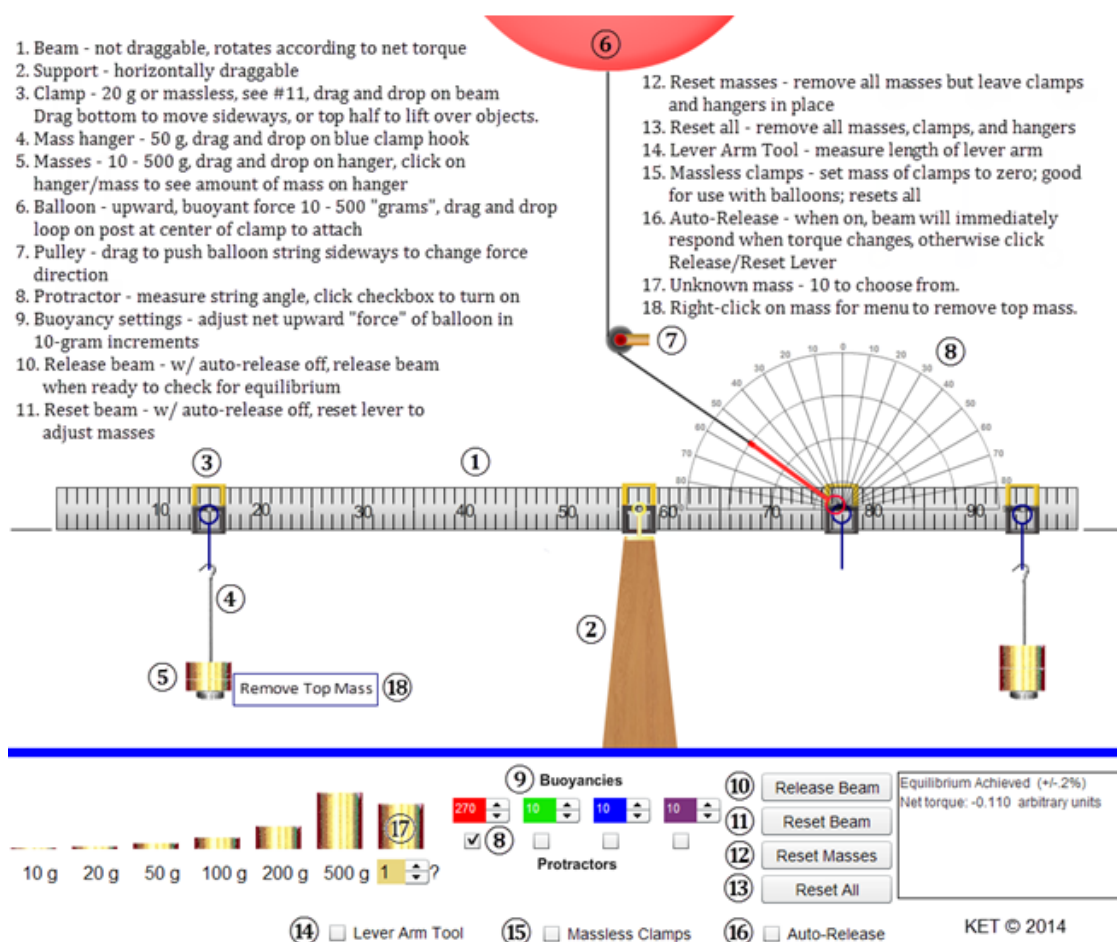

Figure 1: The beam balance apparatus
Let's set up the apparatus just as it appears in Figure 1.
- 3 Add 300 g to the mass hanger. Click on the masses and note that the info box confirms that there’s 300 g on the hanger. Note the masses of the clamps (20 g) and hangers (50 g) in the list of information in Figure 1. So, the total is 370 g. What if you put too much mass on a hanger? Try this. Right click (Ctrl+click) on the masses on the hanger and click **Remove Top Mass** from the menu. This may come in handy later. OK, replace the mass you deleted.